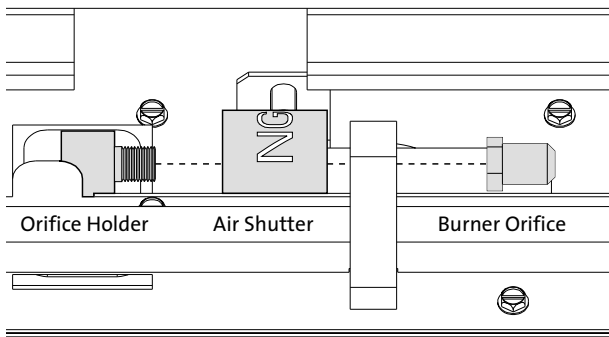

Figure 15. Burner orifice change-out.
5. Use a 1/2" open end wrench or deep-well socket to remove the burner orifice from the brass orifice holder. Replace with the orifice supplied in this kit. See fig. 15.